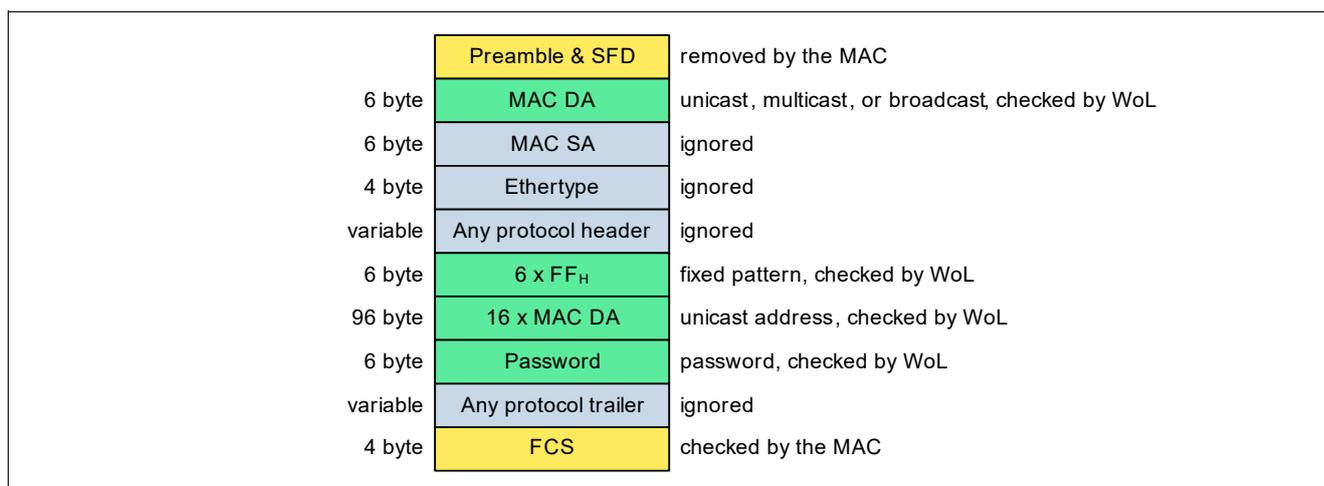

**Figure 43 Typical Magic Packet Data Structure**
**Figure 43** shows the typical Layer-2 magic packets structure. However the fixed pattern followed by the specific unicast address and an optional password can appear in any field location in a packet, including Layer-3 part.